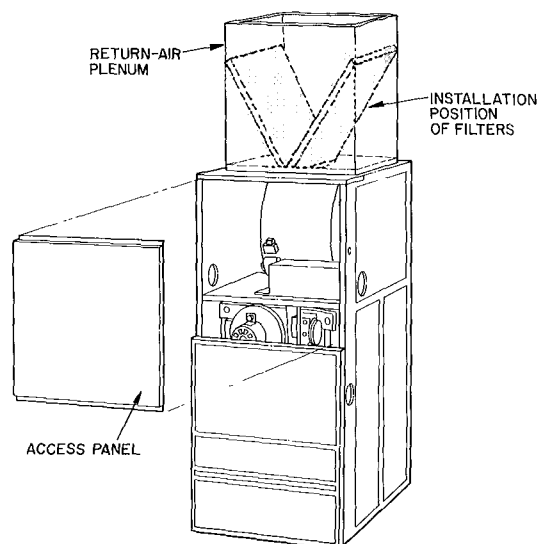

Fig. 10—Position of Filters
The two factory-supplied filters are shipped in the blower compartment. After the return-air duct has been connected to the furnace, install the filters in a V-formation inside the return-air plenum. See Fig. 10.
2. Reach up behind top plate, tilt filters toward center of return-air plenum, remove filters. See Fig. 10.